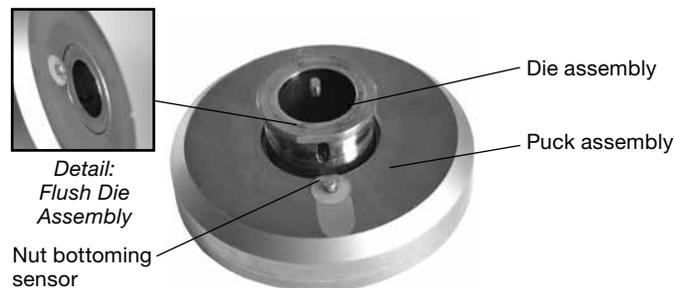

Fig. 4 Die and Puck Assemblies
2. Ensure the flat of the die assembly is aligned with the nut bottoming sensor and the die assembly is seated flush with the puck assembly face. Fig. 4.